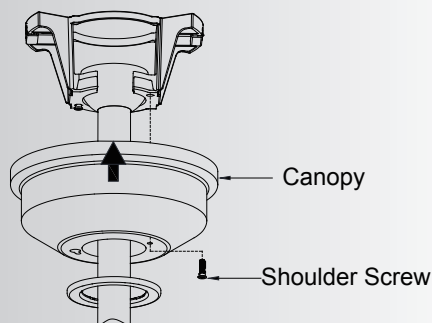

Fig. 16
**Step 2.** Assemble canopy by rotating key slot in canopy over shoulder screw in mounting bracket. Tighten shoulder screw. Fully assemble and tighten second shoulder screw that was previously removed. (Fig. 16)